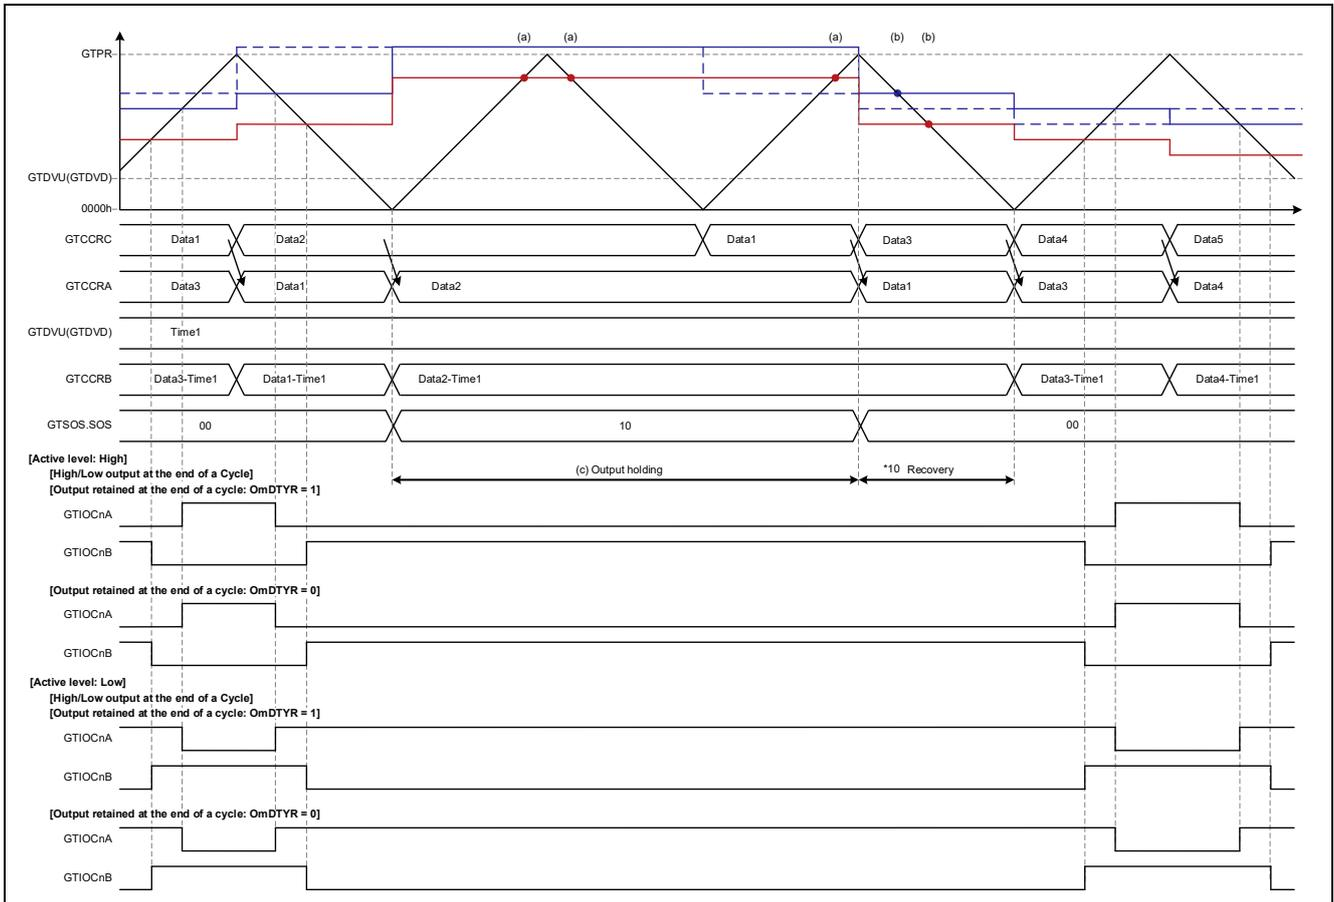

Figure 1.102 Triangle-Wave PWM Mode 2 Operation Example
- Operation Example 3: Figure 1.102 Triangle-Wave PWM Mode 2, Abnormal Value (Transfer at Trough)/Normal Value (Transfer at Crest), caution 10
Figure 1.102 shows an operation example of transfer of a value exceeding GTPR to GTCCRA via buffer transfer at trough and return via buffer transfer at crest of a normal value in triangle-wave PWM mode 2.